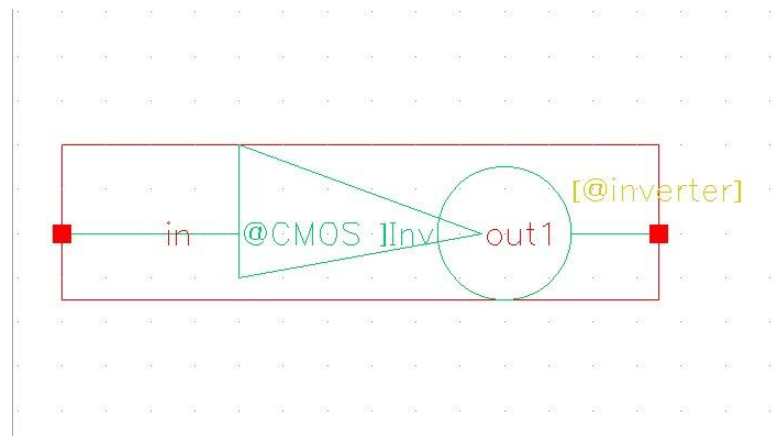

Figure 3: Symbol of CMOS Inverter
- Under shape and polygon option there was different shape. And design a NOT gate. The design of NOT gate or inverter was shown in figure 3.